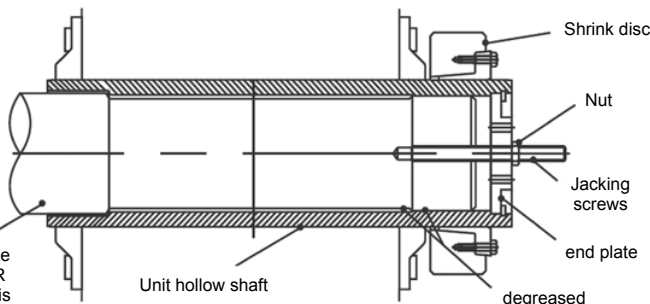

Figure 5: Mounting Gear Unit
5.6.2.2.4 Draw the gear unit onto the driven shaft (See Figure 5).